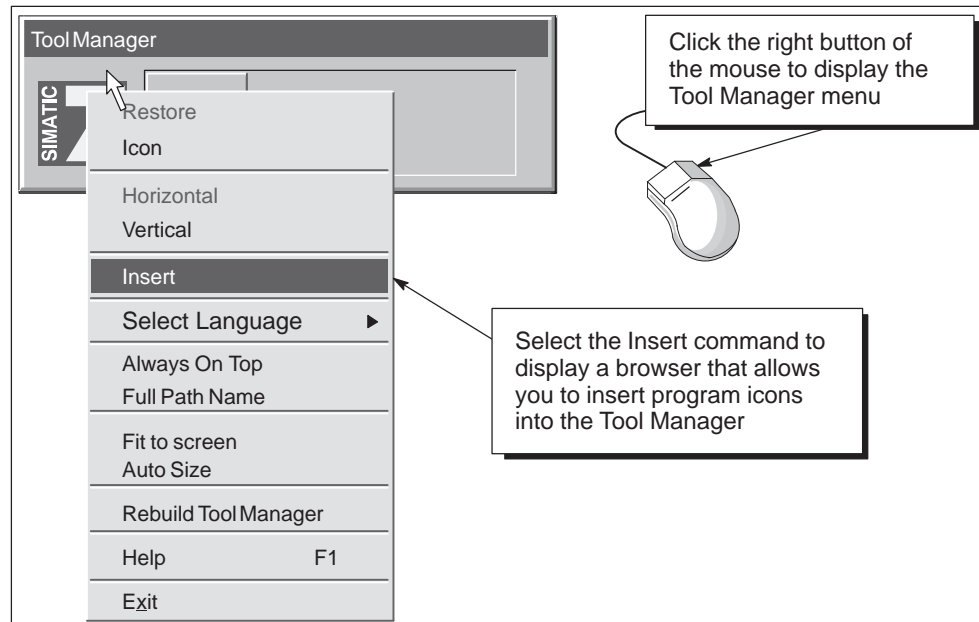

Figure 4-2 Inserting Icons into the Tool Manager
- Using the **Insert** menu command of the Tool Manager (see Figure 4-2)
2. Click the right button of the mouse to display the menu options for the Tool Manager. See Figure 4-2.
You can use the mouse to resize the Tool Manager. You can also use the options menu (shown in Figure 4-2) to further customize the Tool Manager: